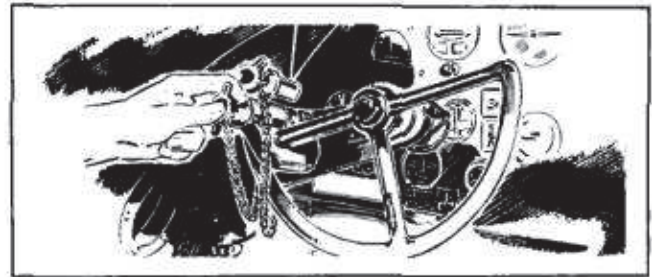

Figure 63—Locking Ailerons
a. **LOCKING AILERONS.**—Rotate the pilot's control wheel 20 degrees counterclockwise, place the yoke lock over the left-hand spoke, and press it firmly into the base plate. Remove the elevator key after turning it 90 degrees in the key hole of the yoke lock. (See figure 63.)